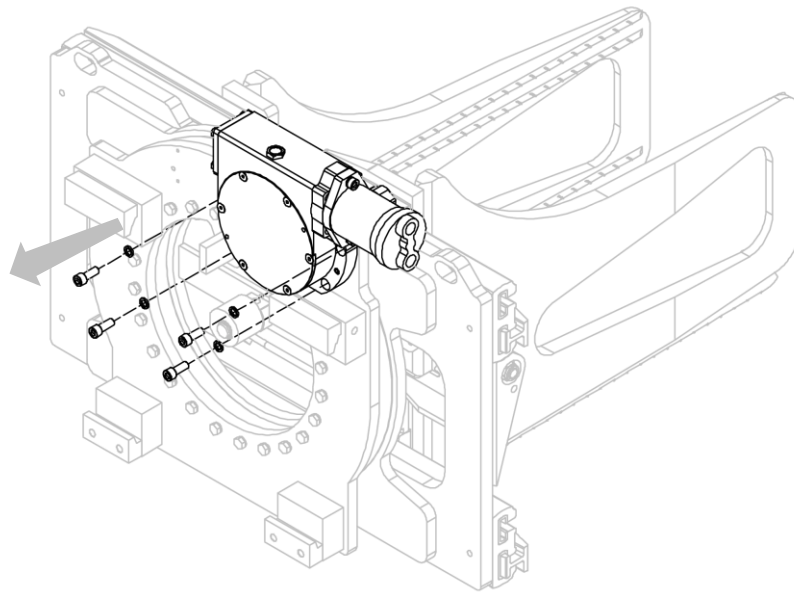

Figure 34
3. Remove the gearbox-motor pair from the equipment assembly, after removing the corresponding bolts (see *Figure 34*).